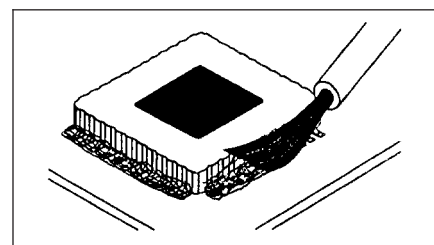

Figure 1 Apply Flux
4. Apply flux to all solder joints. (See Figure 1.)